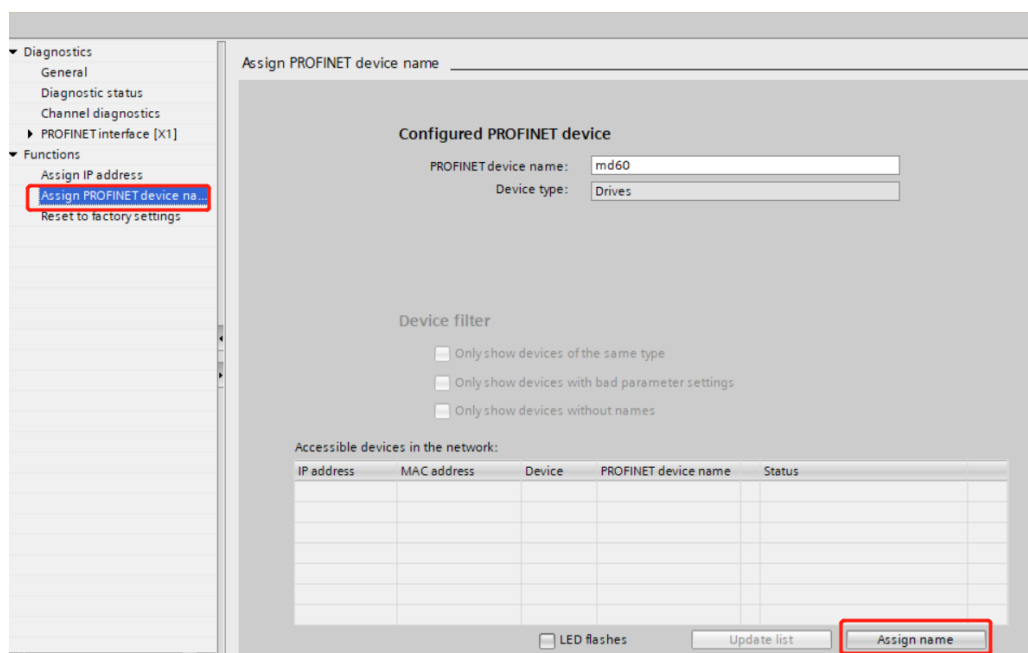

Figure 1.2.2 Modification of PROFINET Device Name
- ③ Continue to step ②, double-click "Assign PROFINET Device Name" in the "Function" drop-down list. After filling in the PROFINET device name, click the "Assign Name" button. **Note that the name of the PROFINET device must be the same as the name in the configuration, otherwise it cannot be connected to the PLC.** Figure 1.2.2.